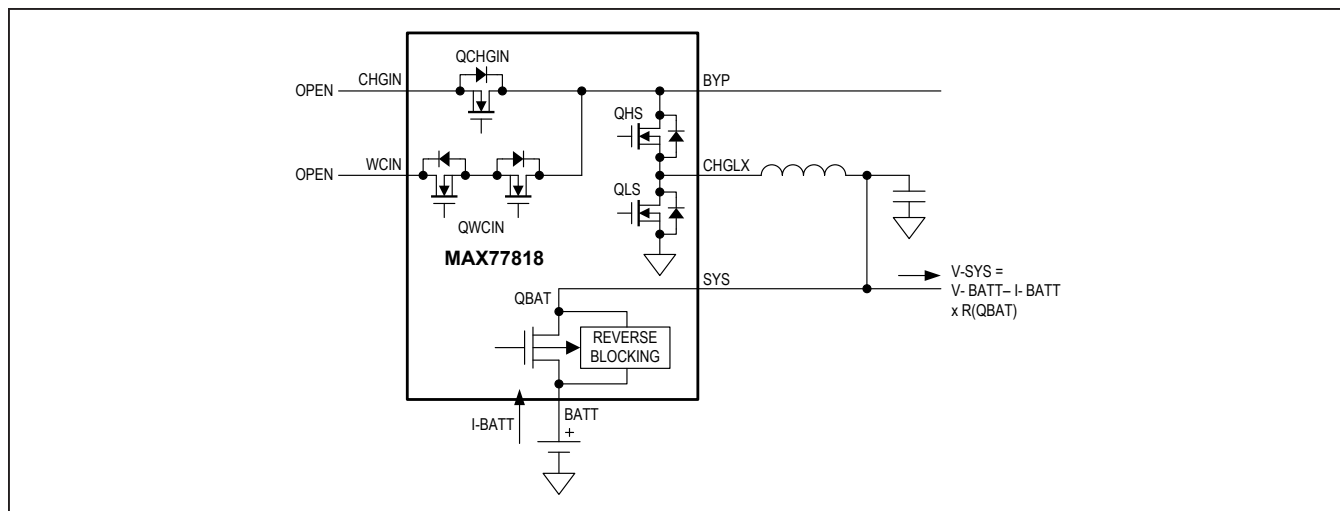

Figure 10. Battery-Only
**Battery Only, MODE = 0x00:** Adapter and wireless charger are invalid, outside the input voltage operating range ( $QCHGIN = \text{off}$ ,  $QWCIN = \text{off}$ ). Battery is connected to power the SYS load ( $QBAT = \text{on}$ ), and boost is ready to power OTG ( $\text{Boost} = \text{standby}$ ), see Figure 10. **Battery Only.**